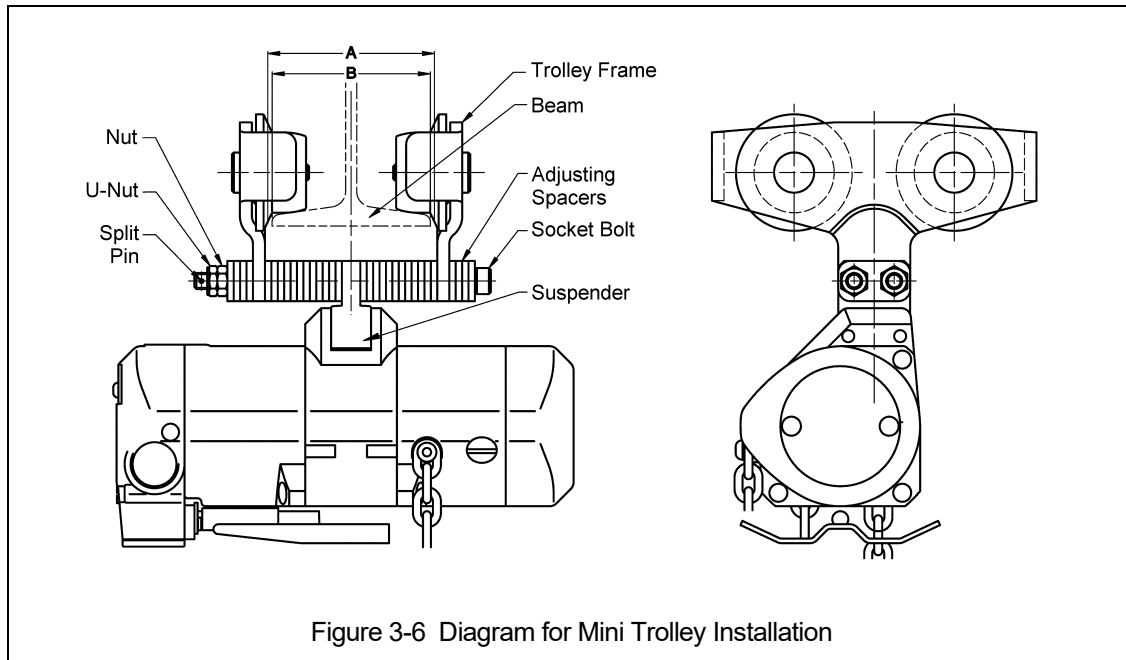

Figure 3-6 Diagram for Mini Trolley Installation
3.9.1 Mini Trolley - Follow instructions below to install the trolley. Refer to Figure 3-6.
- 3) Refer to Figure 3-6 and assemble the trolley Frames, Adjusting Spacers and Socket Bolts onto the Suspender. Install and hand tighten the plain Nuts on the Socket Bolts. Verify that dimension "A" is approximately 0.12 - 0.16 in (3-4mm) greater than "B" (flange width). If "A" does not fall within the specified range, move spacers from inner to outer or from outer to inner as necessary to obtain the proper "A" dimension, irrespective of the numbers in Table 3-1.